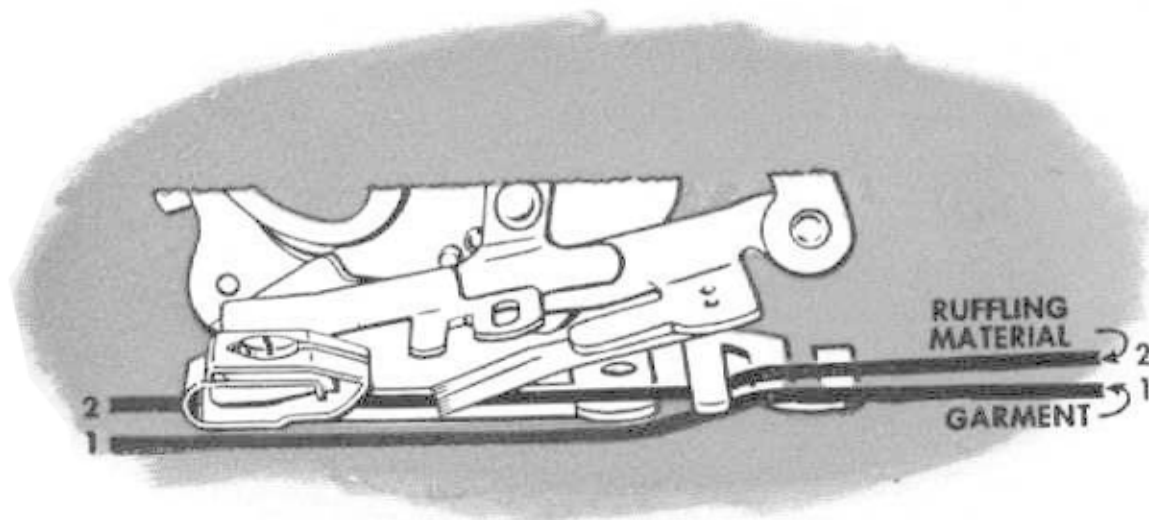

Fig. 64. Correct Positions for Materials
1. Insert material to be ruffled between two blue blades and under separator guide (**Line 2, Fig. 64**).
2. Place material to which ruffle is to be attached under separator blade and under separator guide (**Line 1, Fig. 64**).